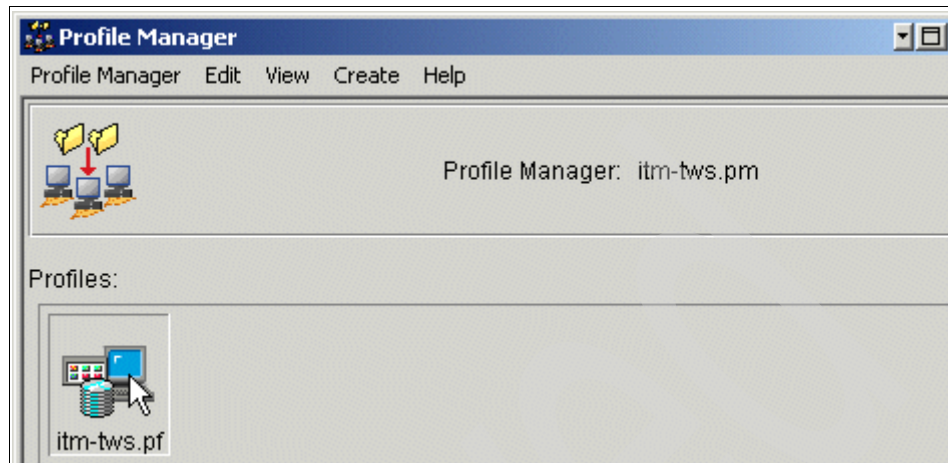

Figure 9-30 Opening the new profile.
4. Double-click the new profile as shown in Figure 9-30.